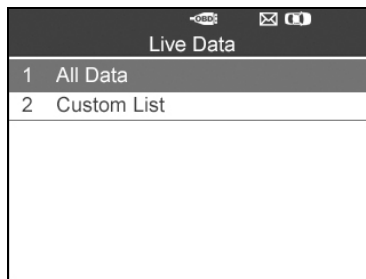

Figure 4.30
- 1) From the Live Data menu, use the **UP/DOWN** scroll button to select **All Data** and press the **Y** button. (Figure 4.30)
- 1) To retrieve customized live sensor data, use the **UP/DOWN** scroll button to select **Custom List** from **Live Data** and press the **Y** button. (Figure 4.30)